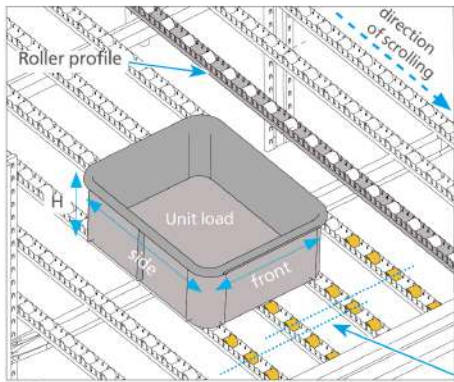

Fig. 1
The roller bed solution developed by METALSISTEM utilizes Super 1-2-3 as a supporting structure. The inclined surface is created by an initial 410mm deep frame followed by a series of 510mm deep frames that are spaced equidistantly so that supporting points of the roller bed are kept at a constant pitch (fig.1)
The example seen in figure 1 show a roller bed surface with an inclination of 14% created by a beam pitch of 66mm with the beam resting points set at a constant 487.5mm. The inclination of the roller bed may be varied by simply changing the pitch setting by 33mm and, or by changing both the frame depth and the distance between the frames. The key is to maintain the distance between the resting points constant.
The roller bed solution developed by METALSISTEM utilizes Unirack as a supporting structure. The inclined surface is created by an initial 430mm deep frame followed by a series of 530mm deep frames that are spaced equidistantly so that supporting points of the roller bed are kept at a constant pitch (fig.1)
The example seen in figure 1 show a roller bed surface with an inclination of 14% created by a beam pitch of 66,66mm with the beam resting points set at a constant 487,5mm. The inclination of the roller bed may be varied by simply changing the pitch setting by 33,33mm and, or by changing both the frame depth and the distance between the frames. The key is to maintain the distance between the resting points constant.
- 4) If possible, place the roller profiles on the roller bed offset one against the other so that totes can never foul against the rollers. (fig. 1)